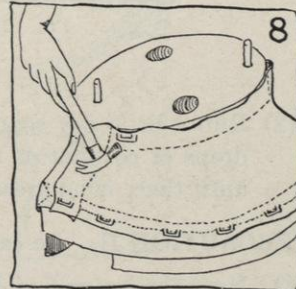

FIG. 8.
- Tack felt with staples in about 6 places around the headsize (see Figure 8). **Never put staples in any part of the hat that will show.**